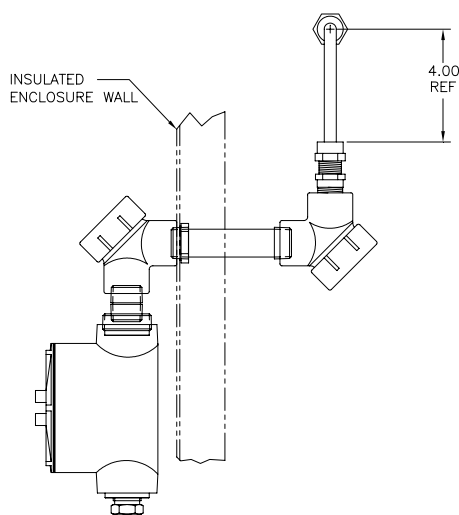

Figure 16 Assembled RS-232 Option
- 4) Screw 3/4" drive nut, located on the Internal Assembly nipple fitting, through insulated wall onto the elbow joint located on the external assembly (see Figure 16).
- 17) Using Figure 16, make field connections to plug and re-insert into corresponding connector in RS-232 Option Outlet Box.
- 1) Using the wiring instructions shown in Figure 16, make all external connections.